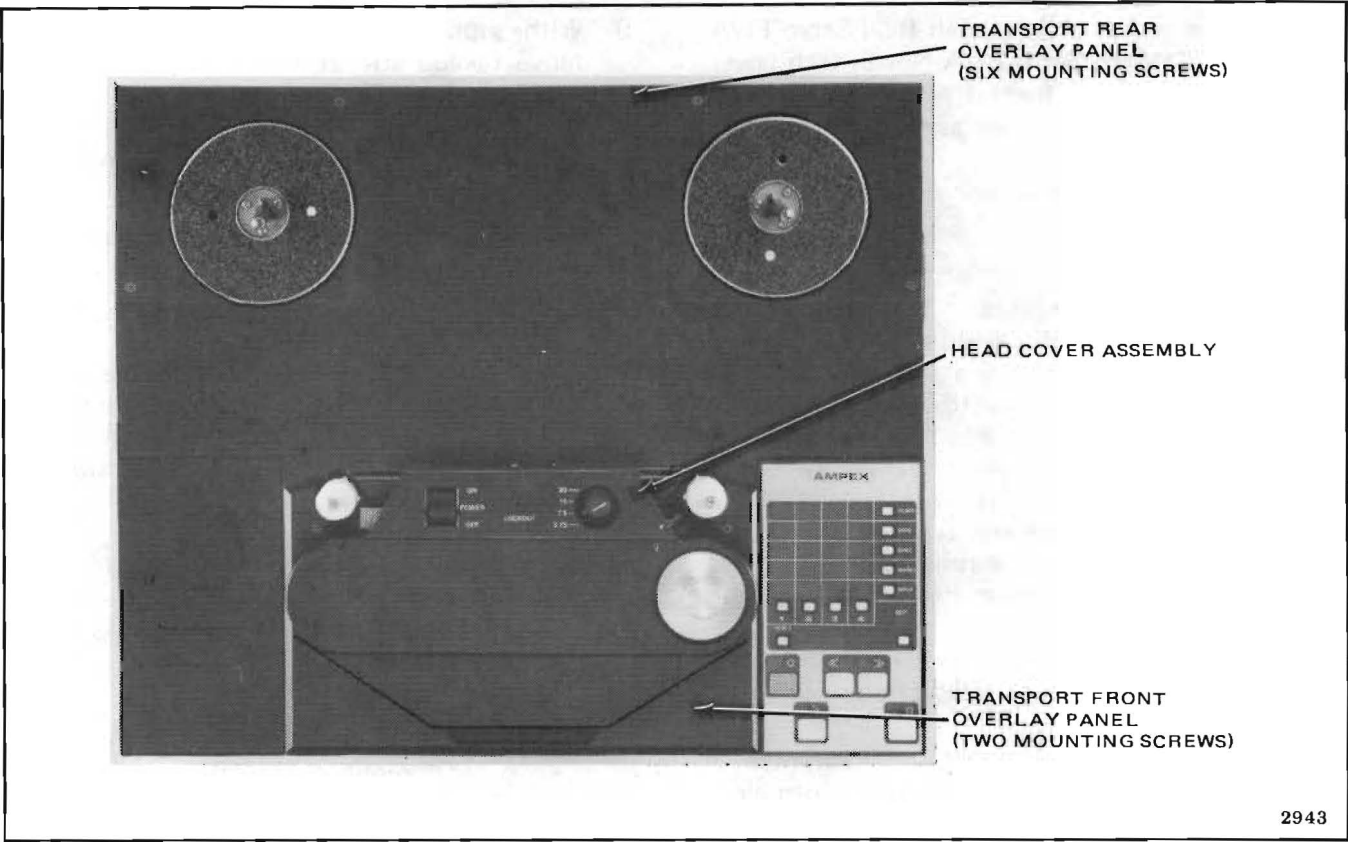

Figure 5-23. Head Cover and Overlay Panels
14. Remove the transport front overlay panel from the top of the transport by removing two screws (Figure 5-23).
- a. Remove head cover assembly and transport rear overlay panel (Figure 5-23).
1. Remove head cover assembly, and transport front overlay panel (Figure 5-23).
1. Remove head cover assembly and front overlay panel (Figure 5-23).